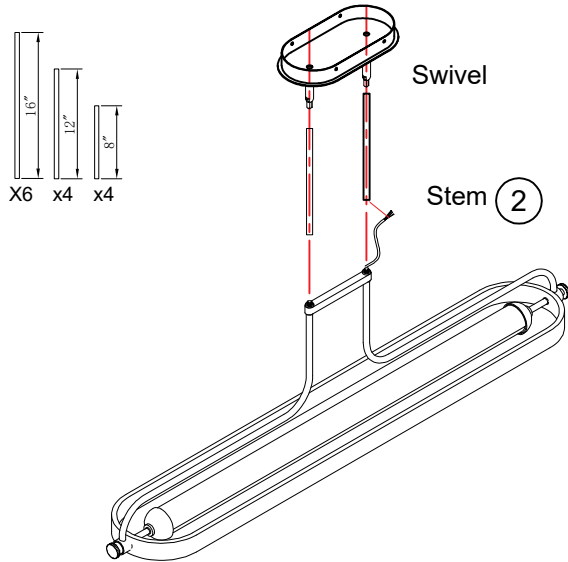

Fig.1
2. Determine the stem length required for installation, connect stems and thread wire through (Fig. 1).
3. Attach swivels to stems (Fig. 1) then attach to canopy using canopy hardware provided (Fig. 2).